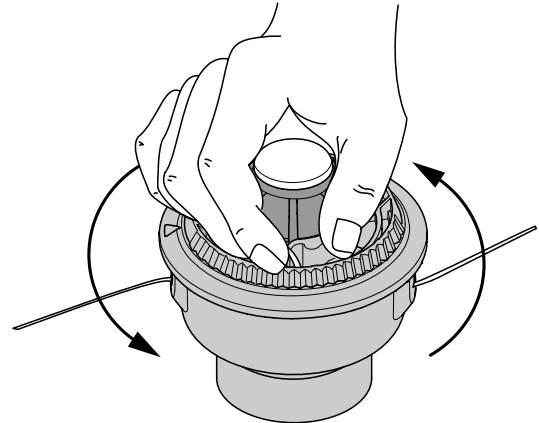

Figure 19
8. Hold the outer spool. Wind the inner reel counterclockwise until approximately four (4) inches (102 mm) of line remain. See Figure 19.